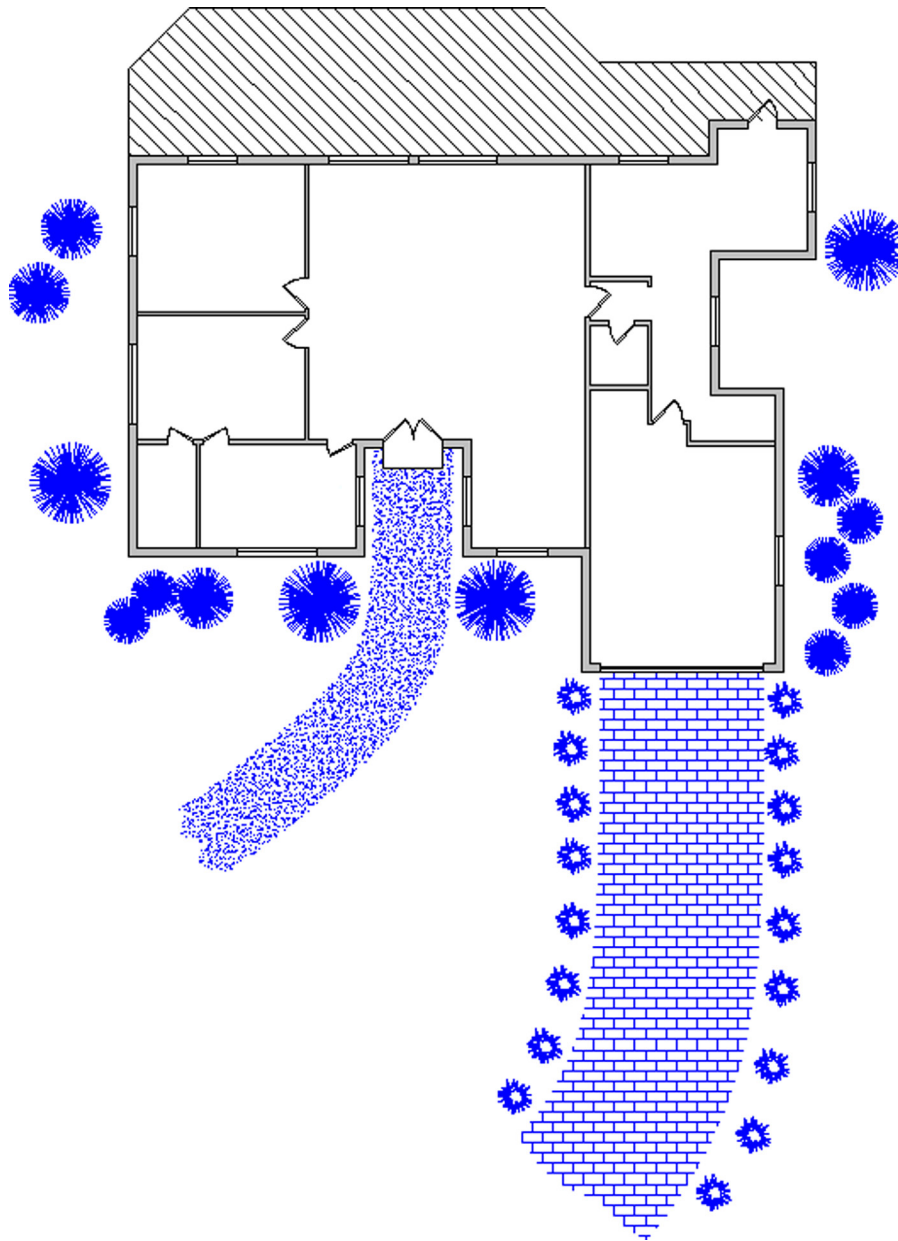

FIGURE 17.16
- Step 2.** Create the landscaping plan as seen in Figure 17.16. You need to create plines for the borders of the driveway and the walkways. Then, after adding the hatch patterns (Sand and Brick), erase some or all of the plines. For the trees and shrubs, you need to call upon the xline and spline.